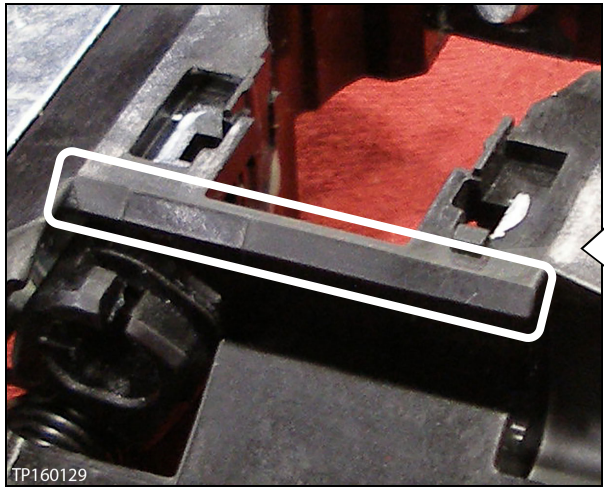

Figure 1
- b. Apply the vertical piece on the angled surface as shown in Figures 1 and 2.